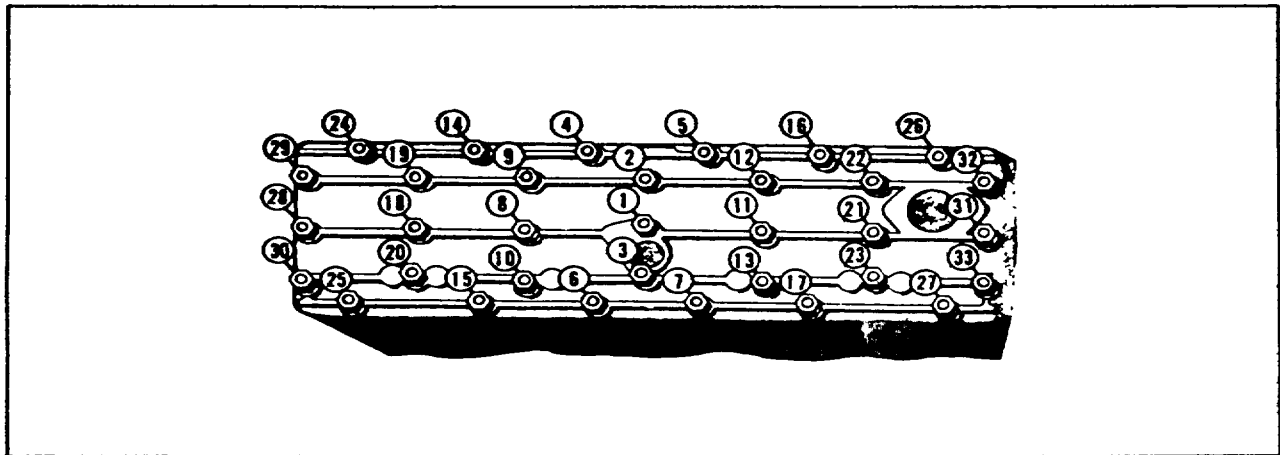

Figure 6-7. Six Cylinder Head Screw Tightening Sequence
2. Wipe mating surface of cylinder head (52) and position on cylinder block.
3. Loosely screw into position the six threaded high head screws (53) and washers (55) at oil dip stick bracket, coil bracket and lifting eye positions.
4. Loosely assemble high head screw (56) and washer (57) in cylinder head at position 18 of Cylinder Head Tightening Sequence, figure 6-7. This screw provides tapped boss for distributor holddown screw.
5. Loosely install remaining cylinder head capscrews (54) and washers (55) in cylinder head.
7. Tighten cylinder head screws, following sequence shown in figure 6-7. With an accurate torque wrench, torque each screw to 35 to 40 foot-pounds.